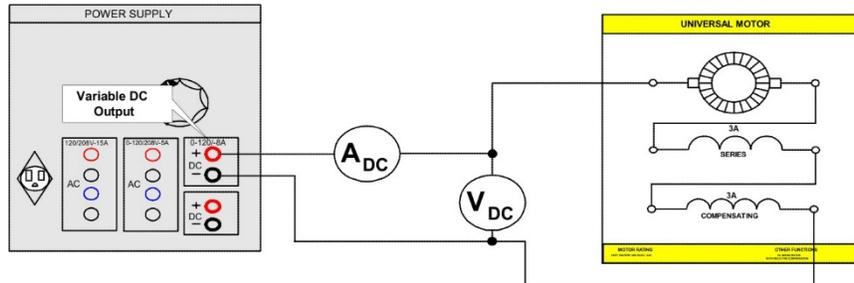

FIGURE 8.20
- Step 15: Replace the AC meters with DC meters and connect the input to the variable DC output, terminals 7 and N, of the power supply as shown in Figure 8.20.